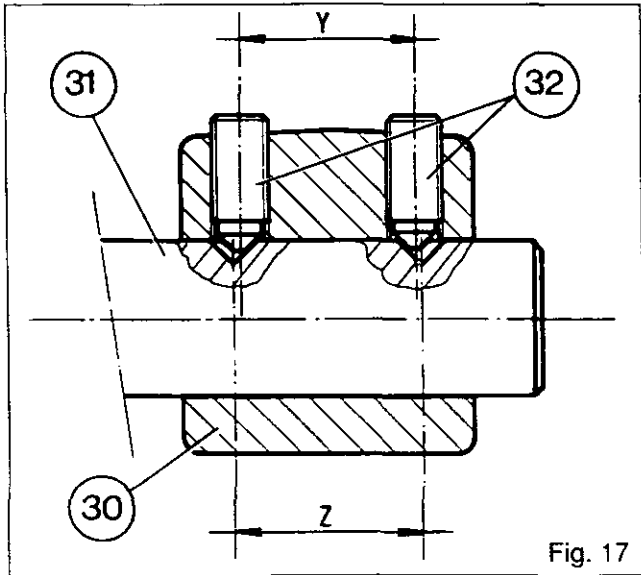

Fig. 17
The fork can be adjusted to move to different points by acting on either the front or rear screw (32) depending on what adjustment is required (Fig. 17).
70. Repeat the procedure (with the fork locked in the rearward position), checking that the rear pad on the fork is not touching the synchro outer member. If it is, adjust the fork by acting on screws (32) (Fig. 17).